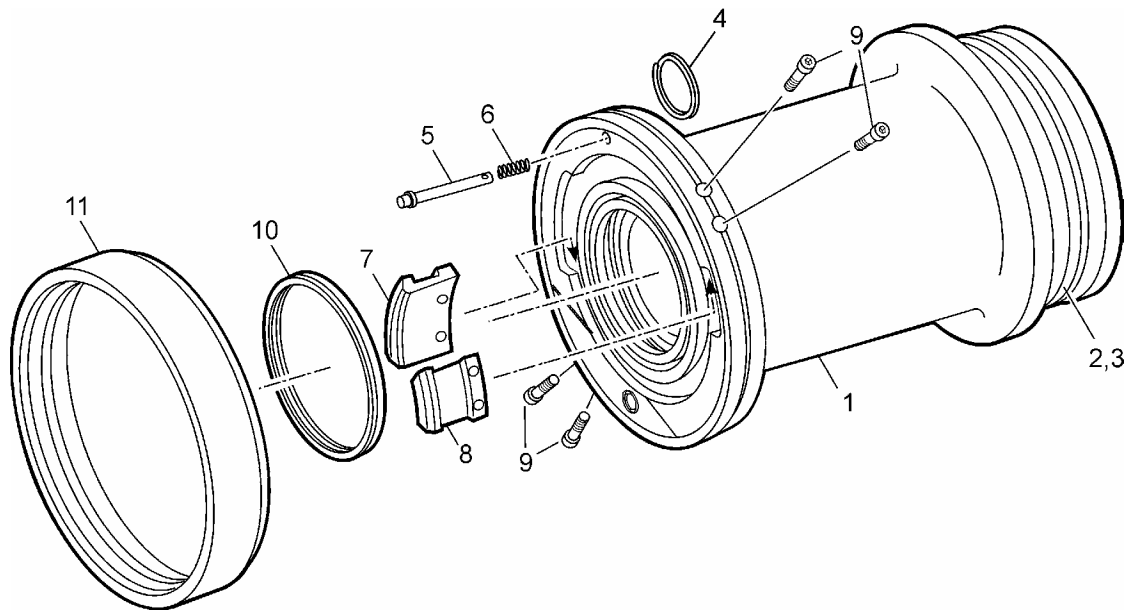

FIGURE 3 – OPTION T SWIVEL JOINT TO MATE 64348/64300 NOZZLES
- 4.2.2 Option T – Follow paragraphs 4.1.2 - 4.1.7 above for this inlet, referring to Figure 3 for item numbers. Remove Seal (3-2) and O-ring (3-3) and discard them.
Ref. Figure 3